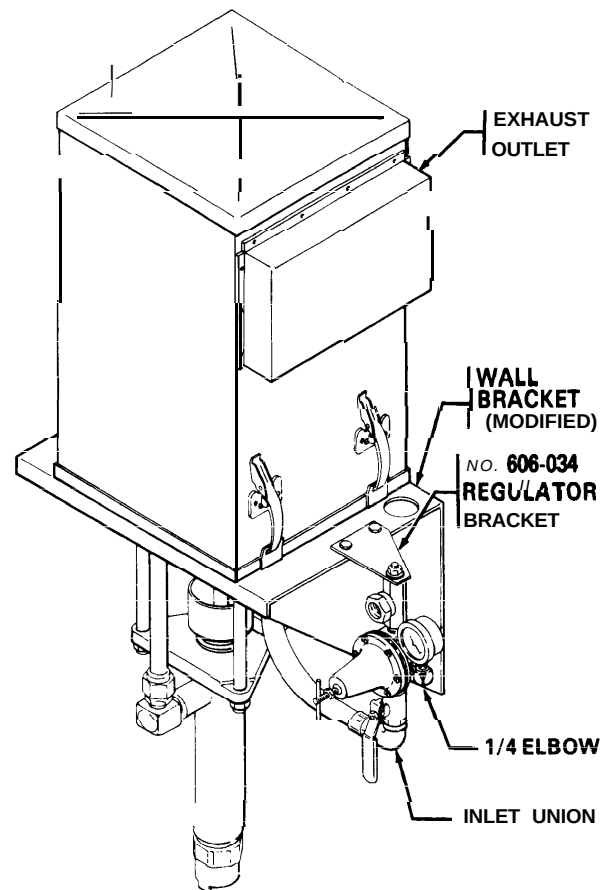

Fig 4
1. Rearrange the air regulator assembly as shown in Fig 4.
5. Using Fig 4 as your guide, continue to assemble the Silencer as in Steps 3 through 8 of "Ram Mounting Only".
6. Attach the regulator assembly to the bracket as shown in Fig 4.